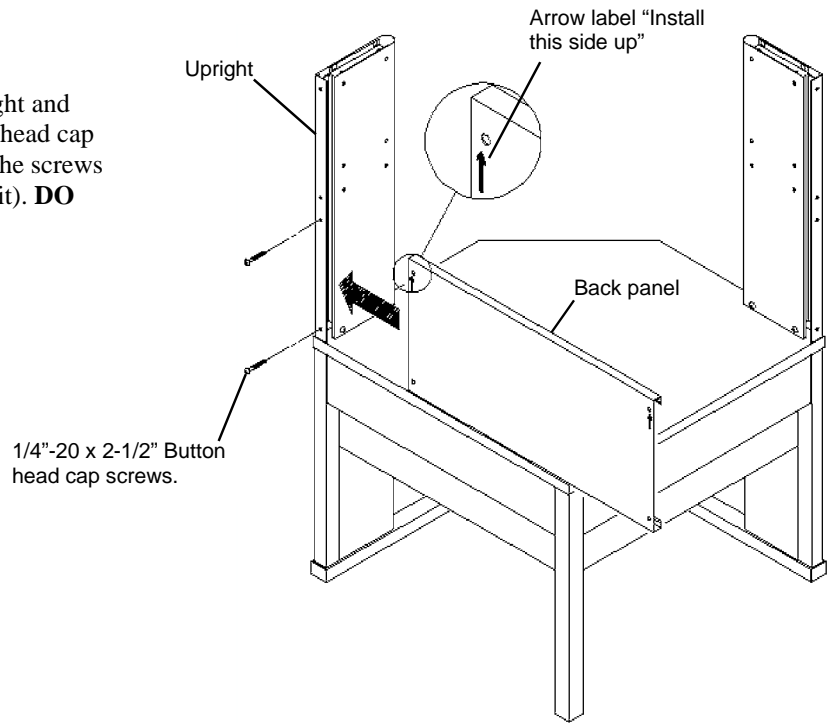

Figure 5
4. Insert one end of a **Back Panel** into an **Upright** and then install two 1/4"-20 x 2-1/2" Button head cap screws into the back of the Upright. Thread the screws in until their heads touch the Upright (snug fit). **DO NOT TIGHTEN**. See **Figure 5**.